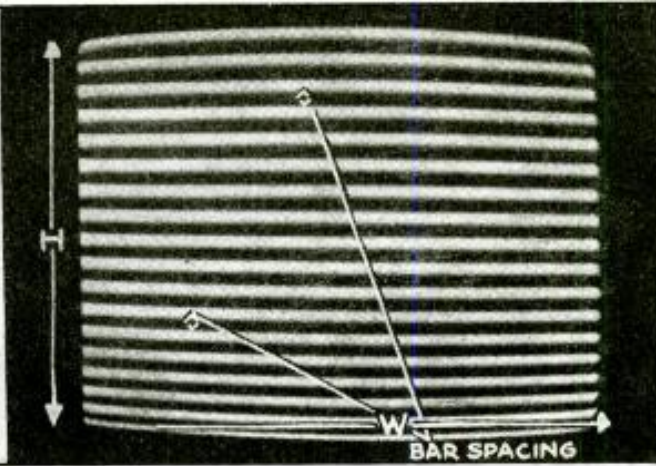

Fig. 6. Test pattern for linearity of frame time base.
Figures 6 and 7 show the effect of applying an oscillatory voltage to either the C.-R. tube or the V.F. tube grid. If no oscillator is available it is worth while setting up temporary apparatus for this test.
Fig. 6. (A) Diagram for wiring all the components mounted on the speaker brackets. (B) Diagram for wiring master inlet and remote control receptacles, and connecting the wall cables to the terminal strips on the speaker brackets. The wiring for all speaker brackets and receptacles are identical, all cables being wired in parallel.
Now let us turn our attention to the wiring in the walls which terminate at each speaker bracket and at the master-inlet and armchair-control receptacles. The method for running these wires in the walls was completely described in Part II of this series of articles. Two 7-wire shielded cables, you will remember, are used; and since the wires in these cables are identically color-coded it is necessary that the ends of all the wires in one of these cables be spotted with ink (or paint) in order to establish a definite color code. Make absolutely certain that the wires so painted are all from the same cable. A continuity test is the best method for tracing them through. Our working color-code then as finally established (see Fig. 6) is as follows:
This done, it is now merely necessary to attach the ends of these wires to their respective screw posts on the terminal strip on each speaker bracket as shown in Fig. 6. The master inlet and the armchair control receptacles are identically wired as shown in Fig. 6B. These receptacles are really 22-contact "jacks" and are a bit difficult to solder inasmuch as the contacts are closely spaced. Considerable caution therefore should be exercised during this operation. Make certain that the shield braids of all the cables are bonded and soldered together and that a lead therefrom is brought to the proper contact on the receptacles.